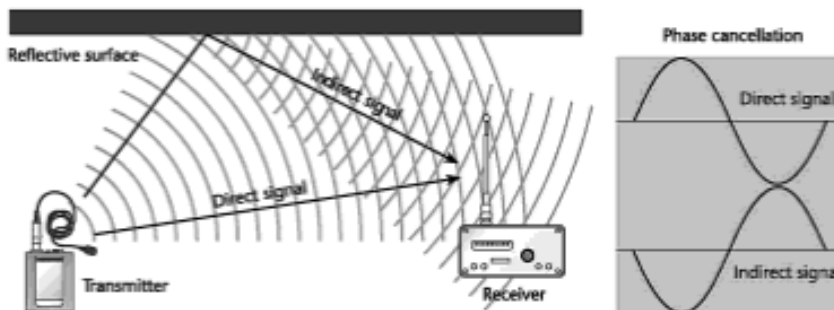

Figure 6-32 Multipath dropout.
- **Multipath**—Wireless systems in the higher frequencies, and therefore transmitting shorter wavelengths, are vulnerable to instances of multipath reception. *Multipath* is a physical phenomenon in which more than one radio frequency (RF) signal from the same source arrives at the receiver’s front end, creating phase mismatching (see Figure 6-32).